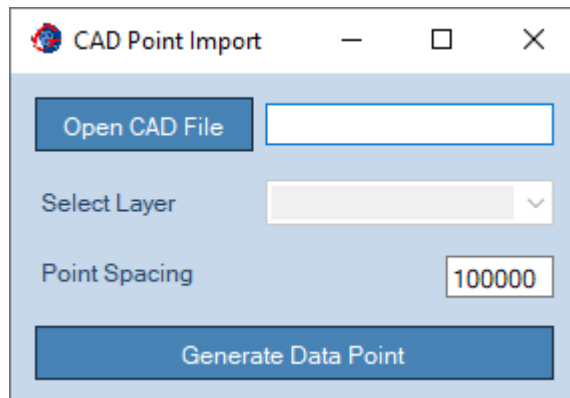

Figure 24: CAD Point Import.
- **CAD File:** If this option is selected the dialog window shown in Figure 24 is displayed. The cloud of points will be created from a set of 2D/3D polylines from a specific layer.